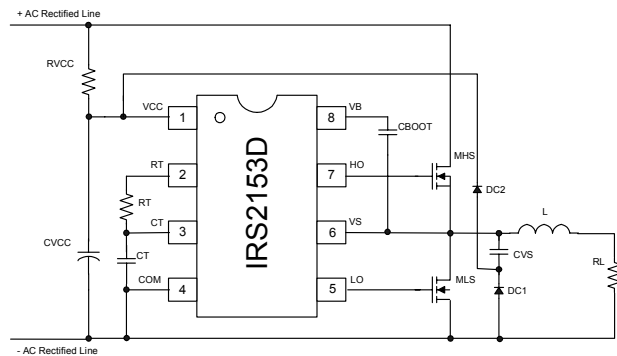

Fig. 2 Charge pump circuit
The use of a two diode charge pump made of DC1, DC2 and CVS (Fig. 2) from the half bridge (VS) is also possible however the above approach is simplest and the dissipation in  $R_{VCC}$  should not be unacceptably high.